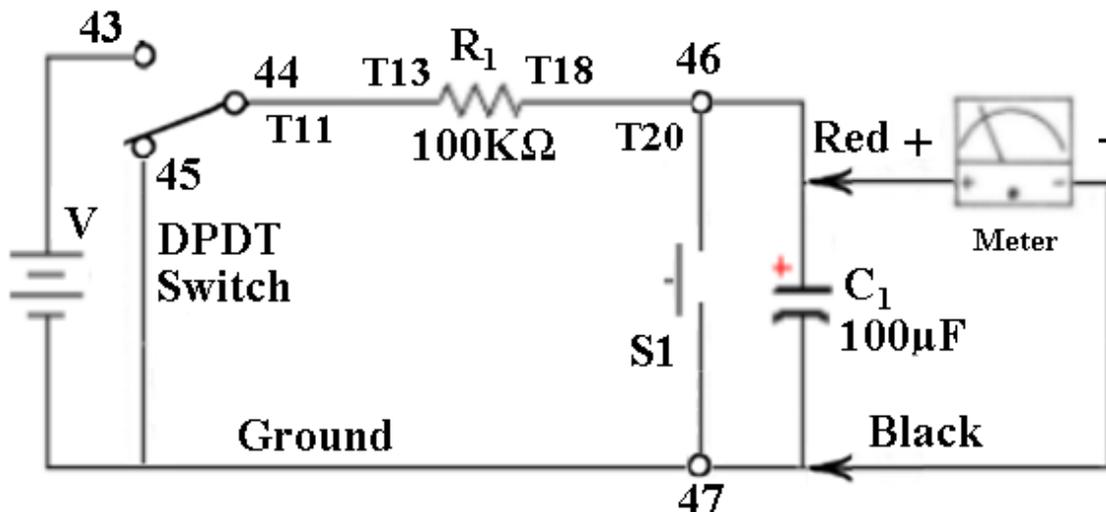

Figure 3.5. Possible Console Breadboard Layout of Capacitor Discharging Schematic
2.1) Reconnect the **RED** wire from **T11** to **Spring #44** and once again charge the capacitor to exactly **10.0 volts**. This time push the **DPDT** Switch **DOWN** (see Figure 3.5) for exactly **10.0 seconds**, as *best you can*, and read the voltage on the meter (you might also try this with the **BLACK** Meter lead disconnected to reduce the error of the parallel **1M** Meter resistance which results in an $R_{\text{actual}} \approx 90\text{K}\Omega$).